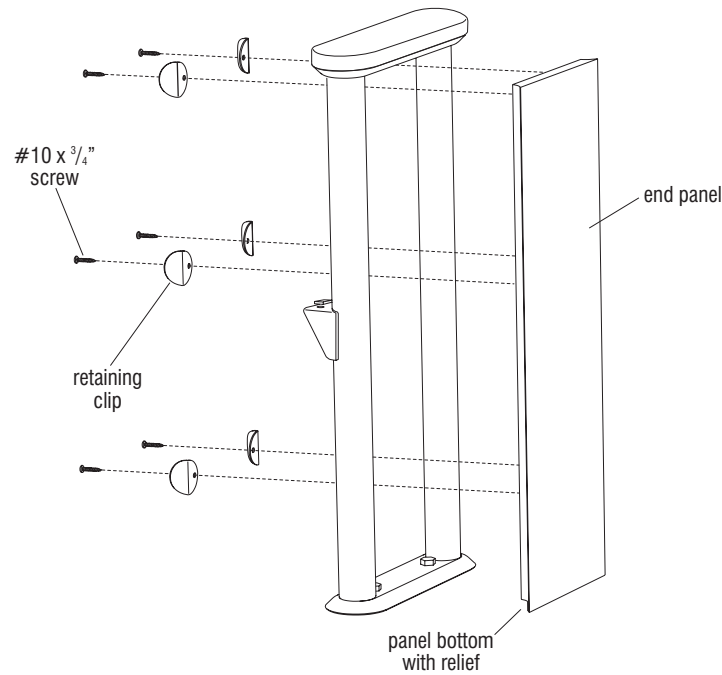

Figure 9
1. Place the end panel between the upright tubes as shown, noting that there is a top and a bottom to the end panel. The bottom of the end panel has a relief for the  $\frac{1}{4}$ -20 x  $1\frac{1}{2}$ " bolts used to mount the upright to the floor (Figure 9).
2. Position an end panel retaining clip as shown and tighten the #10 screws, clamping the end panel to the upright (Figure 9).